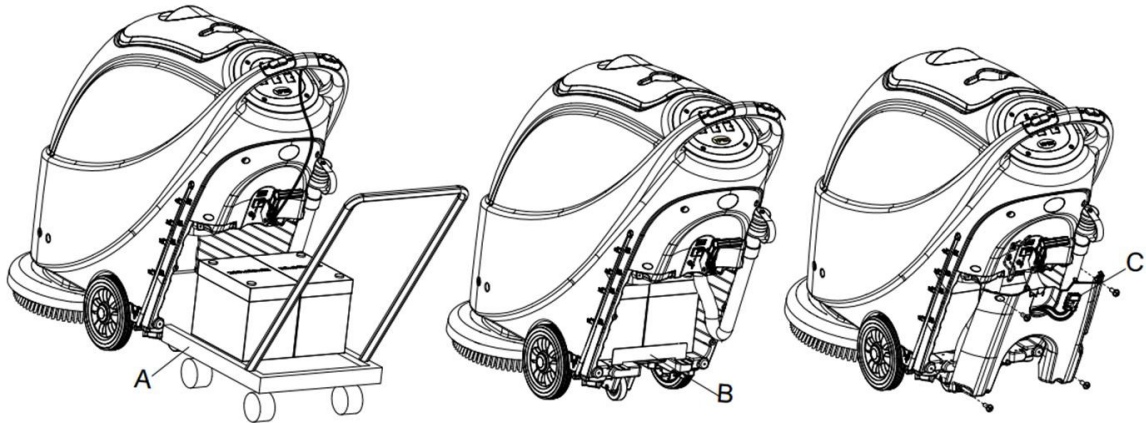

Figure 7
14. Install the battery with specially made battery installation tools (A, Figure 7). After the battery is installed, remove the battery installation tools, and install the battery fixation bracket (B, Figure 7).
15. Put the battery connector (C, Figure 7) through the hole on the top of the battery box cover, put the drain hose through the right hole of the battery box cover, attach the battery box cover with 4 screws, and then install the squeegee lift cable, drain hose, and the squeegee successively.